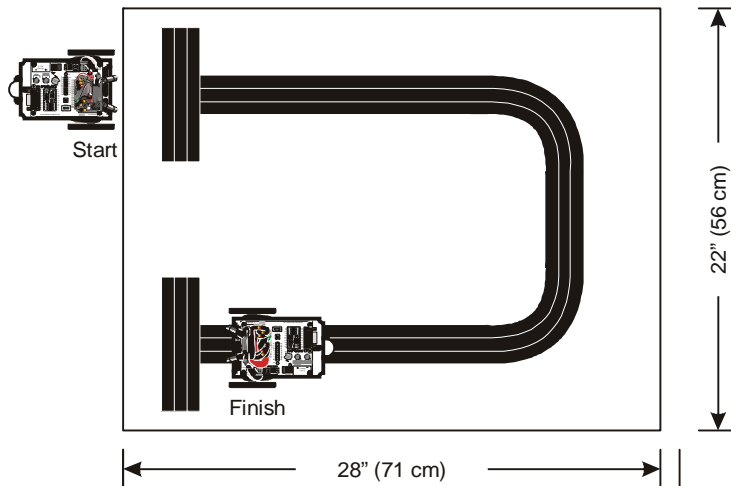

Figure 8-7
Figure 8-7 shows an example of a course you can build and program your Boe-Bot to follow. Each stripe in this course is three long pieces of $\frac{3}{4}$ in (19 mm) vinyl electrical tape placed edge to edge on white poster board. No paper should be visible between the strips of electrical tape.
- (1) Roll of black vinyl electrical tape, $\frac{3}{4}$ " (19 mm) wide
- ✓ On your poster board, use the electrical tape to lay out a course as shown in Figure 8-7.